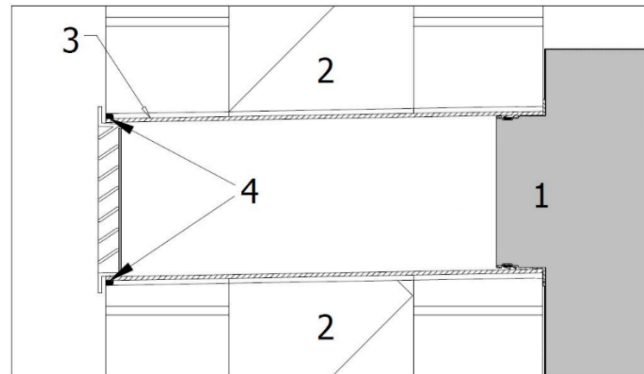

Figure 30: Sealing the gaps around ducts, sectional drawing
Please note that Figure 30 below depicts a unit with intake/exhaust ducts on the back side through a wall.
Figure 30 is a sectional drawing depicting a wall with a duct hole and duct fittings. A unit is installed on the inner wall, i.e. the grey box on the right-hand side marked with the number '1'.
1. Apply sealant to the duct's outside edges, see '4' in Figure 30 above.